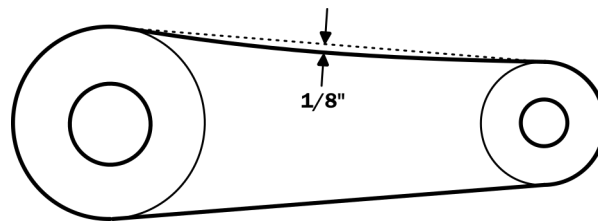

Fig. 2 Belt tension
3. With the drivelines parallel to one another, measure 1" (dim. 'B') back from the outer PTO Driveline shield (see fig. 2) and make a mark on the inner PTO Driveline.
4. Measure 1" (dim 'B') back from the inner PTO Driveline shield (see fig. 2) and make a mark on the outer PTO Driveline.
Check the tension by pressing down on the V-belts. The V-belts should deflect approximately 1/8" as shown in Fig. 2.